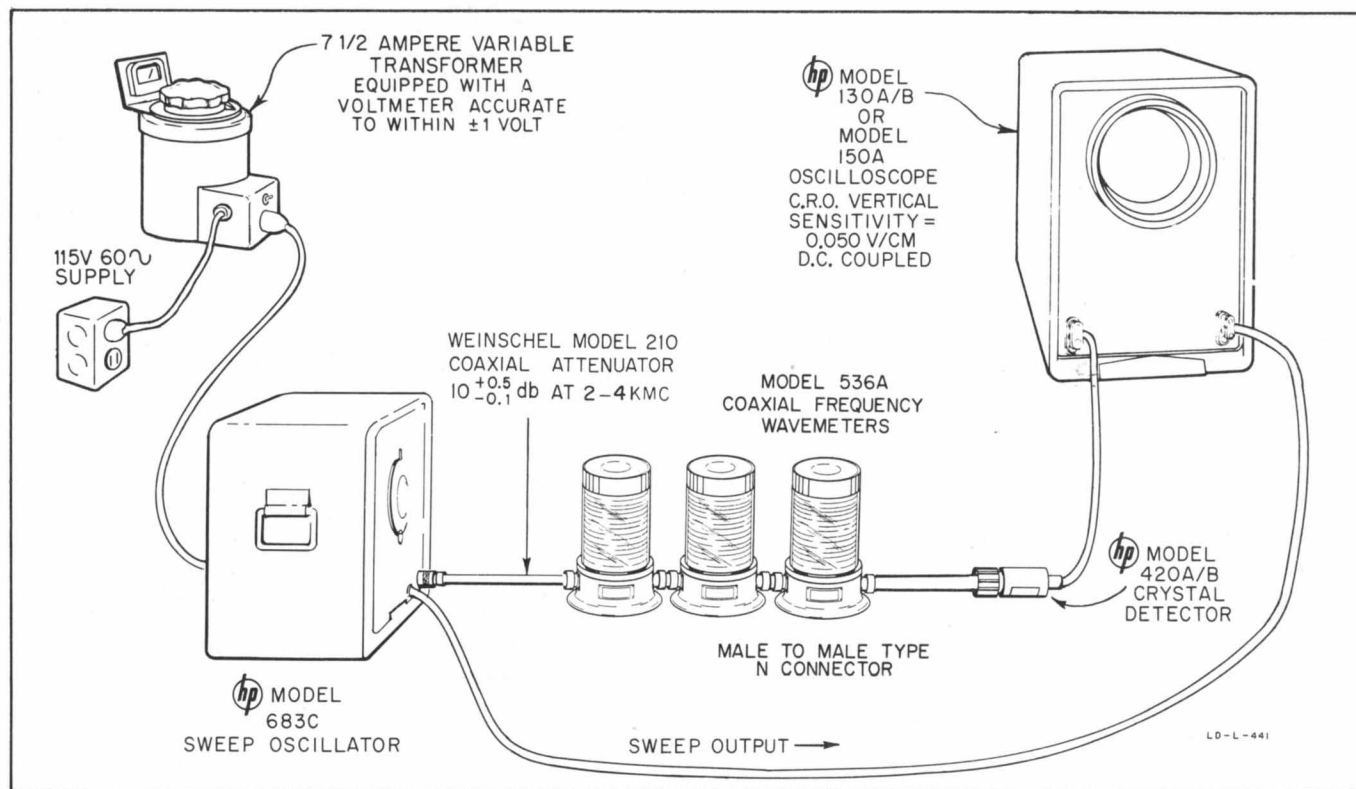

Figure 4-2. Checking Frequency Calibration and General Performance
1) Connect a wavemeter and detector system to the sweep oscillator as shown in figure 4-2.
1) Set up the equipment as shown in figure 4-2.
1) Set up equipment as shown in figure 4-2, except that no wavemeters are required.
1) Set up equipment as shown in figure 4-2 (only one wavemeter is required).